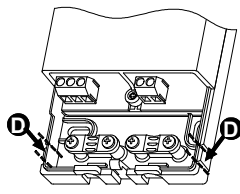

Fig. 4
Side cable entry: With suitable pliers, remove the plastic teeth, as indicated by arrows in (D) Fig. 4.